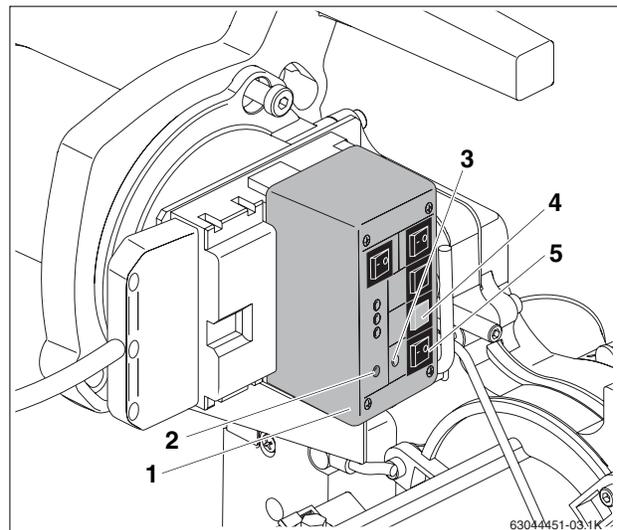

Fig. 11 Bleeding oil line with burner tester
- Burner tester (Fig. 11, **Item 1**; Accessory) – if the burner oil pump is to supply the oil.
The procedure for bleeding the oil line with the burner tester (Fig. 11, **Item 1**) is described below.
- Plug burner tester (Fig. 11, **Item 1**) into the base.
- Switch on control mode switch. The LED (red) lights (Fig. 11, **Item 2**).
- Switch on burner tester with the mode switch (Fig. 11, **Item 5**). Both LEDs (red and green) light (Fig. 11, **Item 2** and **3**).
- Switch on oil preheater (Fig. 11, **Item 4**) switch.